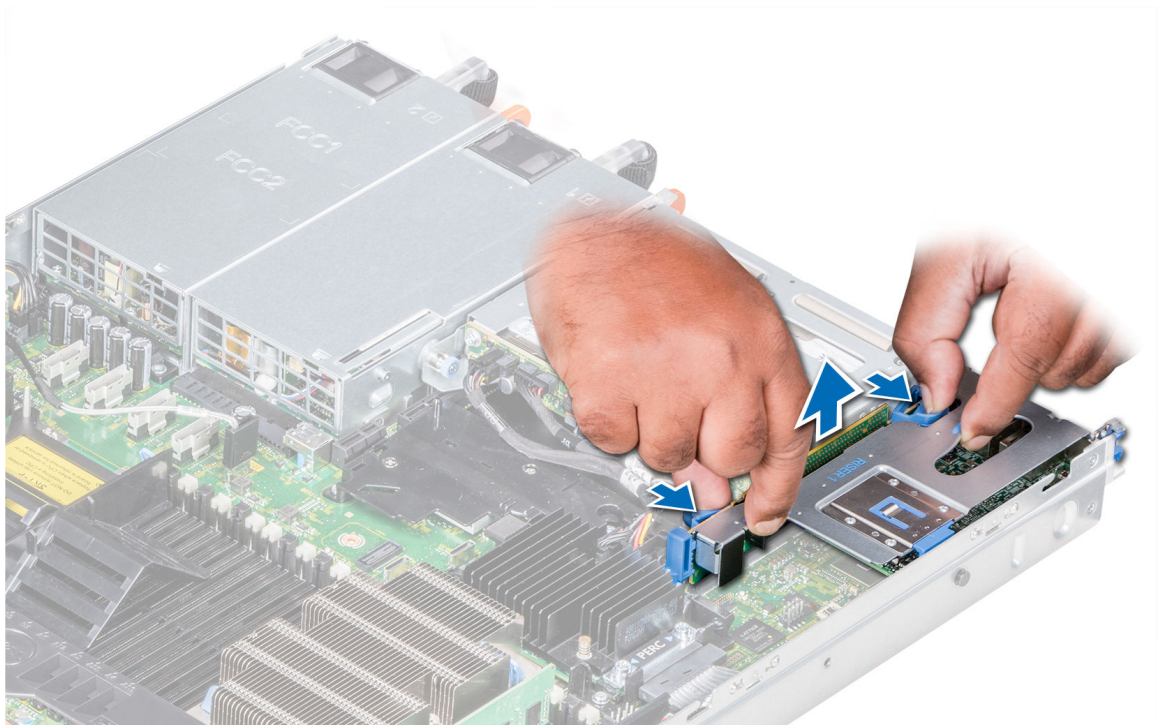

Figure 32: Remove the expansion riser 1B (2 CPU systems with H730P RAID Controller)
Locate the following components on the system board. See Figure 32: Remove the expansion riser 1B \(2 CPU systems with H730P RAID Controller\) on page 118 and Figure 33: Remove expansion riser 1A \(1 CPU systems with H730P or H750 RAID Controller\) on page 119 below:
2. Open the server lid and remove the expansion card riser 1B populated in 2 CPU systems or riser 1A populated in 1 CPU systems. See Figure 32: Remove the expansion riser 1B \(2 CPU systems with H730P RAID Controller\) on page 118 and Figure 33: Remove expansion riser 1A \(1 CPU systems with H730P or H750 RAID Controller\) on page 119.